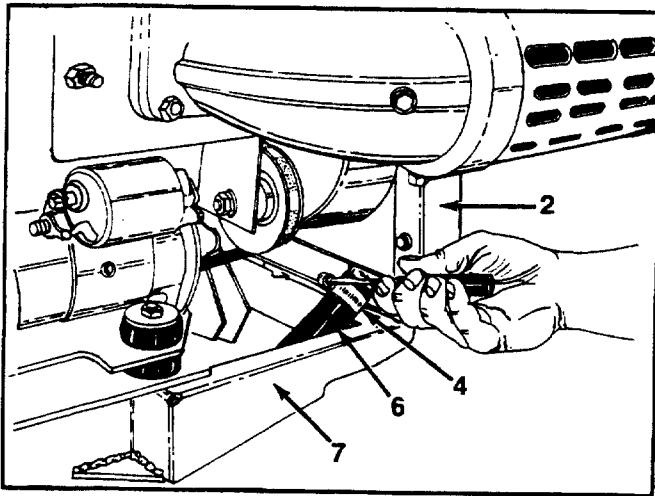

FIGURE 4.
5. Loosen the clamp on the radiator lower hose and remove the hose end from the radiator. See figure 4.